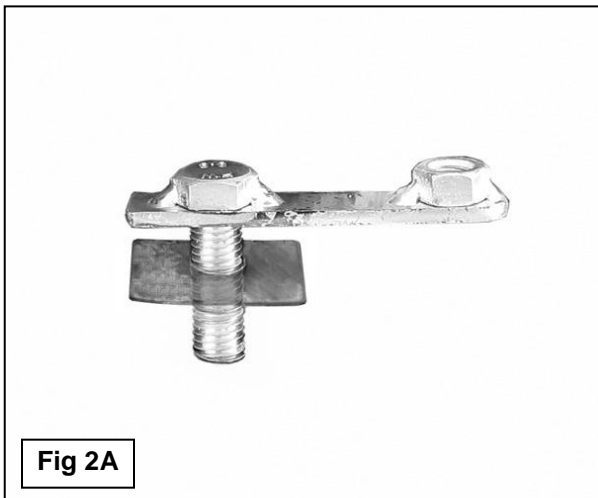

Fig 2A
- Starting at the driver side-front of the vehicle, remove the sealing tape covering the factory holes on the side of the inner panel, **(Figure 1A & 1B)**. Partially thread (1) 12mm Plastic Retainer onto the threaded end of (1) 12mm Bolt and Nut Plate, **(Figure 2A)**. Insert the Bolt and Nut Plate into the factory oval hole. Continue to thread the Plastic Retainer down the Bolt and Nut Plate until it is flush against the sheet metal, **(Figure 2B)**. **NOTE:** When properly installed, the Plastic Retainer is designed to prevent the Bolt and Nut Plate from falling into the body cavity during installation.